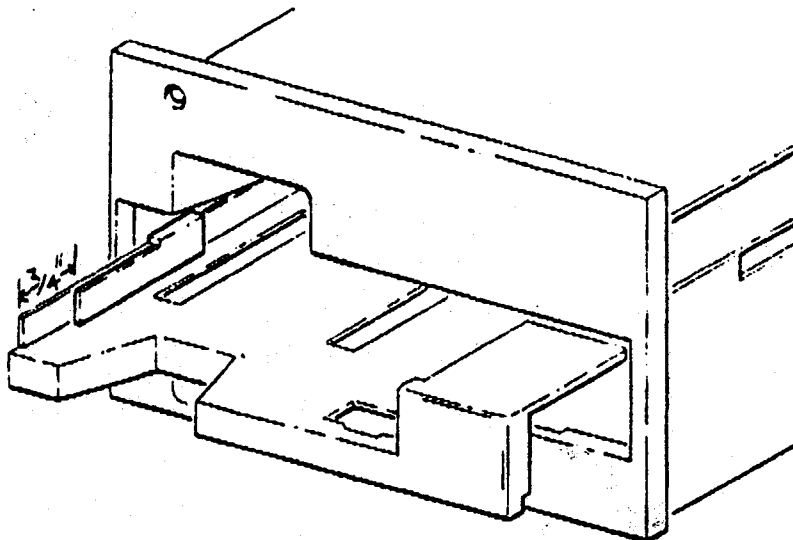

FIGURE 2
3. Place the ESD clip on the tape cartridge tray as shown in figure 2.